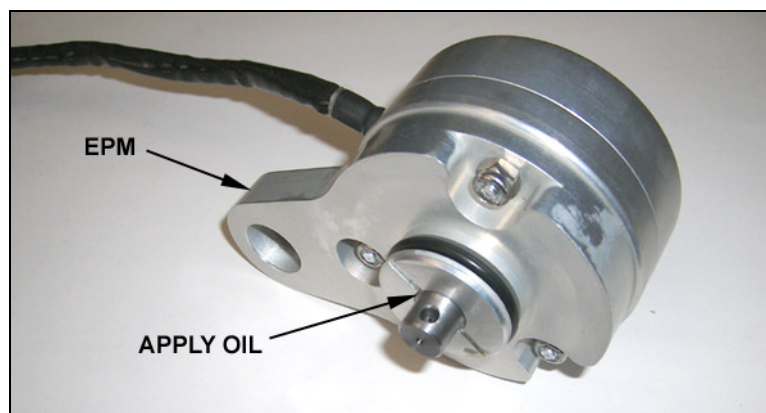

Figure 2.
- a) Apply a generous amount of clean motor oil to the shaft where it enters the bottom of the EPM (see figure 2).